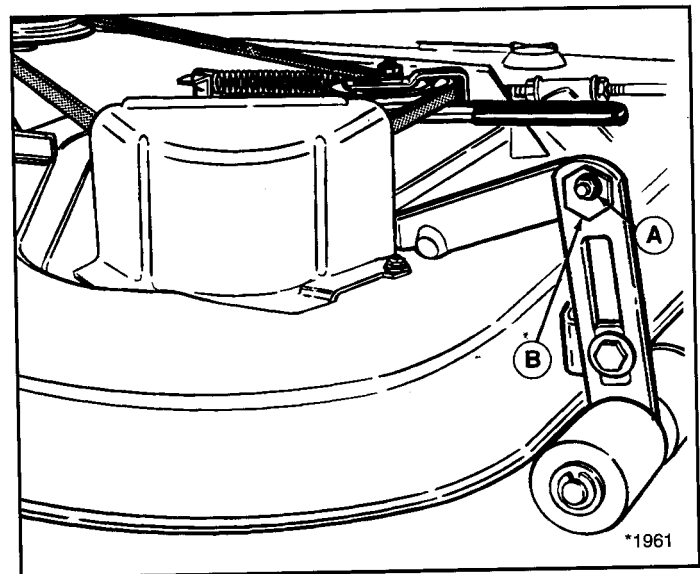

Figure 33. Leveling The Mower Side-to-Side
5. See Figure 33. Loosen the outside nut (A). Turn the eccentric nut (B) to raise or lower left-hand side of mower. When mower is level, hold the eccentric nut while tightening the outside nut.